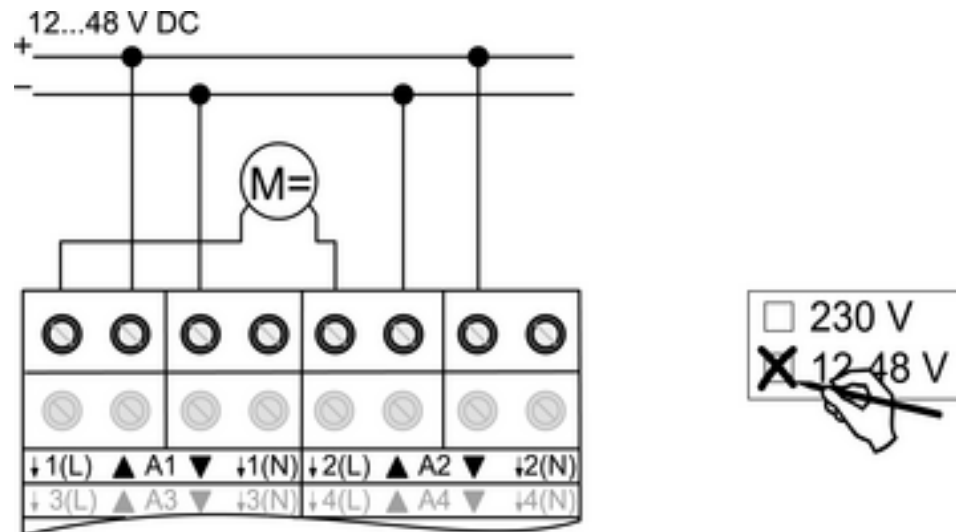

Figure 8
- Connecting the motors (figure 8).
- Mark **12-48 V** use on label (figure 8).